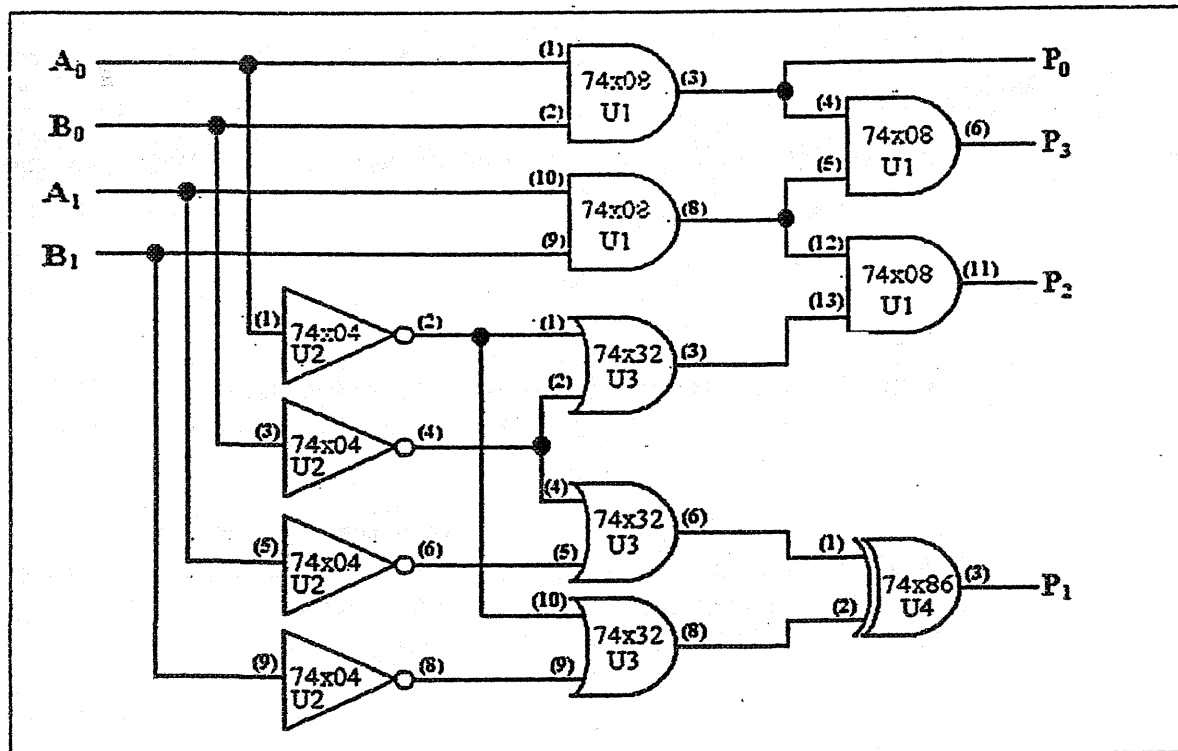

Figure 2.1: 2-Bit Multiplier Circuit
By contrast, the circuit in Figure 2.1 is a condensed combinational logic design of the 2-bit multiplier. It incorporates sharing of common sum and product terms.
- 4) Analyze the circuit in Figure 2.1. Show that its truth table is the same as that given in Table 2.1.